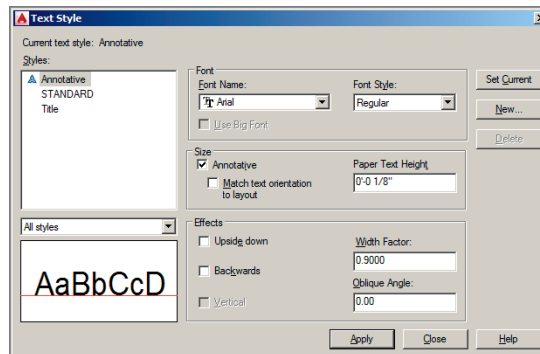

FIGURE 13.1 Creating an annotative text style
2. Select Arial as the font name, select Annotative in the Size area, type **1/8”** (or **0.4** cm) for Paper Text Height, and type **0.9** for the Width Factor (see Figure 13.1). Click Apply, and then click Close.